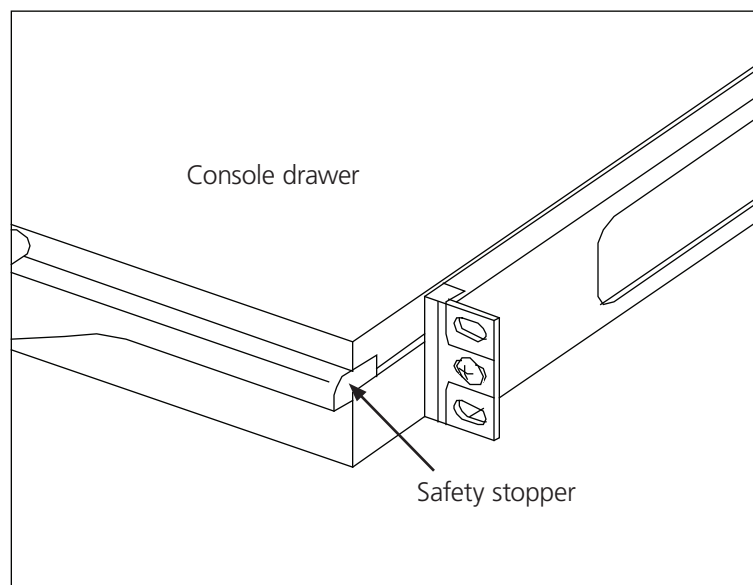

Figure 3-10. Removing the safety stoppers.
7. Remove the safety stoppers from the front sides of the drawer (left and right) in sequence. See Figure 3-10.